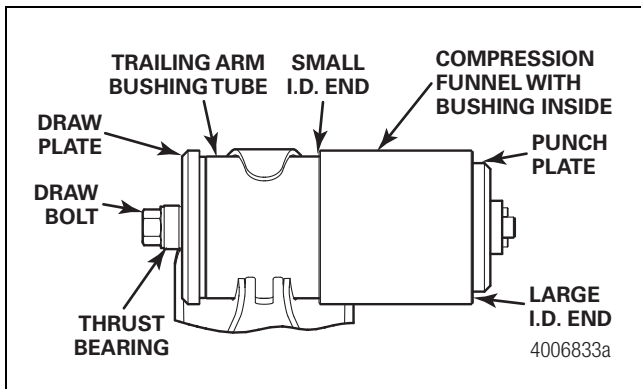

Figure 7
8. Thread the punch plate onto the draw bolt until it rests against the bushing inside the compression funnel. Figure 7.
11. Turn the draw bolt CLOCKWISE using a 1/2-inch impact wrench at a reduced and steady speed to draw the bushing into the trailing arm bushing tube. Figure 7.